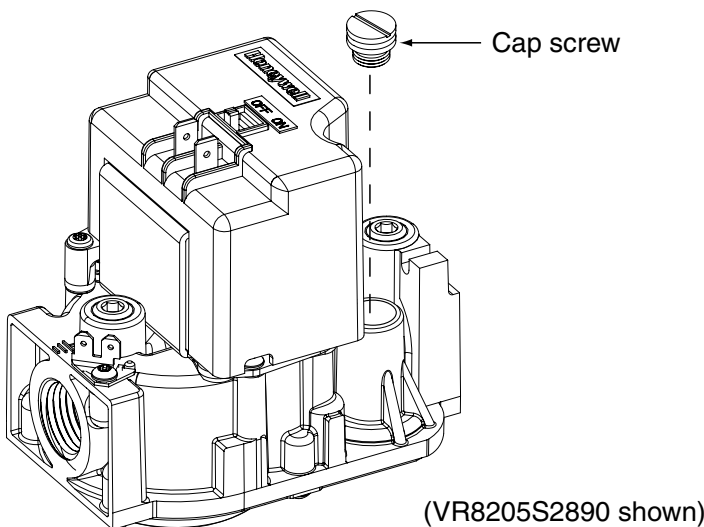
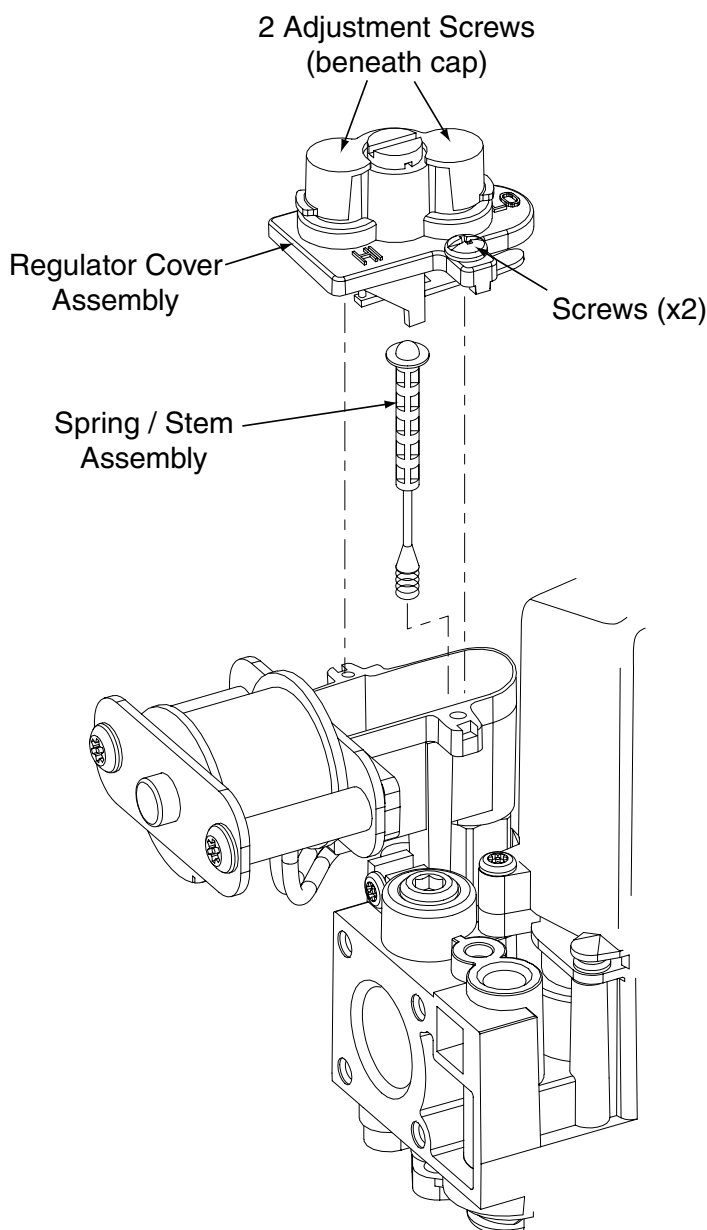
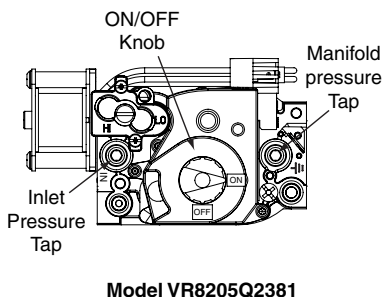

Figure 2. Cap Screw Removal
Figure 4. Spring / Stem Assembly Removal
Figure 5. Inlet & Manifold Pressure Tap Locations
1. Remove the cap screw from the gas valve as shown in Figure 2.
1. Remove two screws securing the pressure regulator cover assembly to the gas valve. Do not discard the screws. See Figure 4.
1. **Single stage gas valve:** Remove the cap screw from the top of the gas valve regulator. See Figure 2 (page 4) for VR8205S2890 or VR8215S1289 models.
2-stage gas valve: For VR8205Q2381 models, remove the plastic cap covering the adjustment screws (Figure 4 page 4).
2. Using a screwdriver or Allen wrench (where appropriate), slowly turn the adjustment screw till the appropriate manifold pressure listed in Table 2 is achieved. See Figure 2 for VR8205S2890 or VR8215S1289 models. See Figure 4 for VR8205Q2381 models or Figure 5 for VR9205Q1127 models.